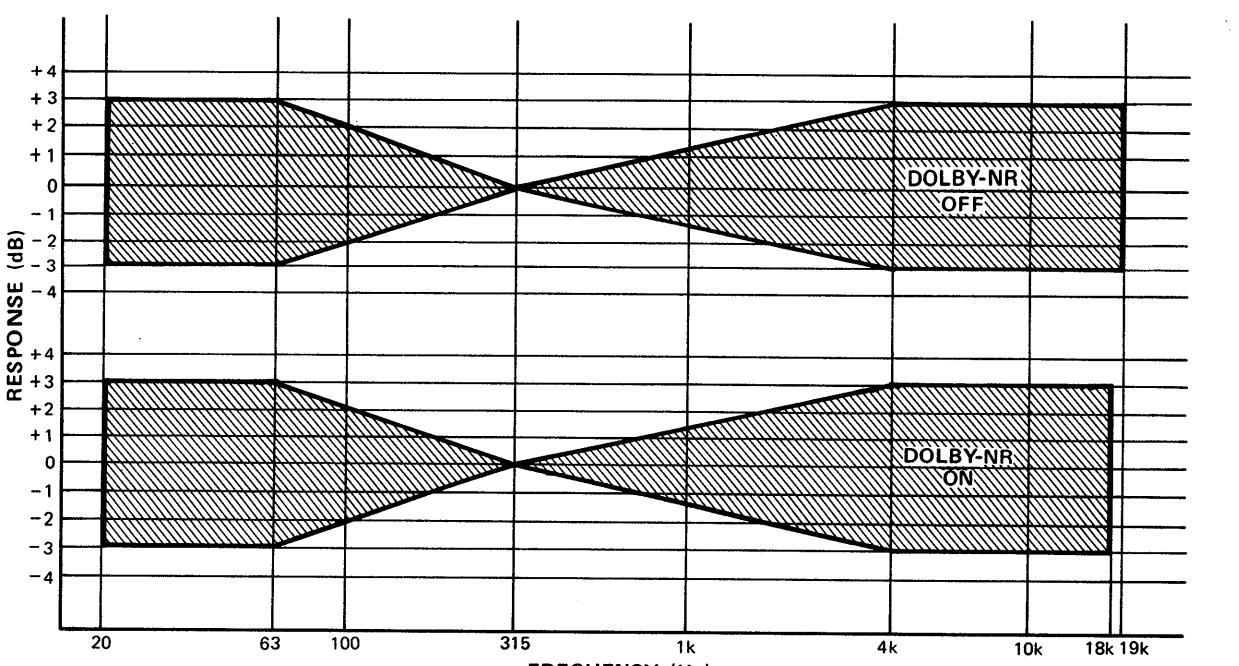

Fig. 5 – FeCr & CrO2
17. If the above frequency response is not within the shaded DOLBY-NR OFF area of Fig. 5, adjust VR305 (left) and VR306 (right) slightly. Repeat steps 15 and 16 until playback frequency response on the V.T.V.M. 2 is adjusted within the DOLBY-NR OFF range as shown in Fig. 5.
18. Set Dolby NR switch to ON position and check if frequency response is within range of DOLBY-NR ON section of Fig. 5, if not repeat DOLBY-NR OFF procedures.
22. If the above frequency response is not within the shaded DOLBY-NR OFF area of Fig. 5, adjust VR307 (left) and VR308 (right) slightly. Repeat steps 20 and 21 until playback frequency response on the V.T.V.M. 2 is adjusted within the DOLBY-NR OFF range as shown in Fig. 5.
23. Set Dolby NR switch to ON position and check if frequency response is within range of DOLBY-NR ON section of Fig. 5, if not repeat DOLBY-NR OFF procedures.